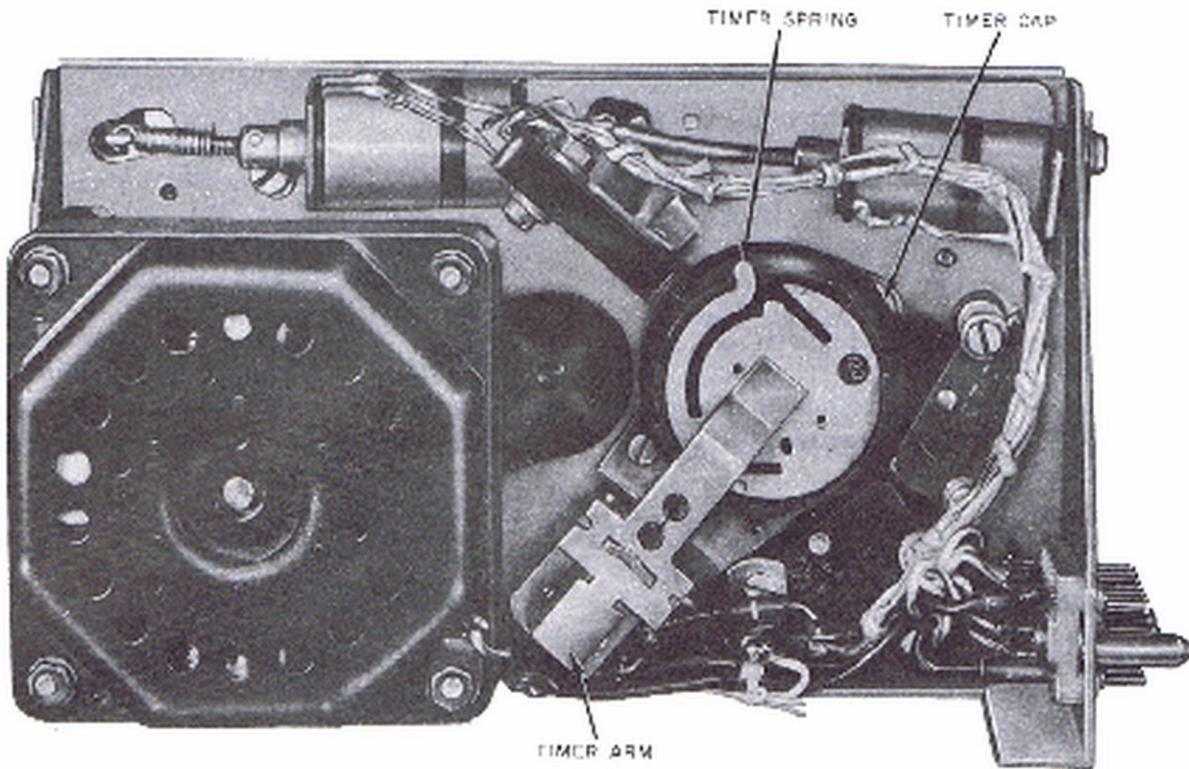

Fig. 3—KS-19245, List 2 Recorder
#### 4.03 Adjust announcement recording capacity (Fig. 3). The set is shipped with an announcement setting of 30 seconds. Announcement time may be increased in increments of 15 seconds, from 15 seconds to 90 seconds, and in 30 second increments, from 90 seconds to 180 seconds. To change setting proceed as follows:
- (1) Remove top cover.
- (2) Remove KS-19245, List 4 amplifiers:
- (3) Release timer cap by carefully depressing timer arm (Fig. 3).
- (4) Adjust recording capacity by carefully lifting tab of timer arm from slot and rotate to position of desired interval (Fig. 3).
- (5) Replace KS-19245, List 4 amplifier.
- (6) Replace top cover.